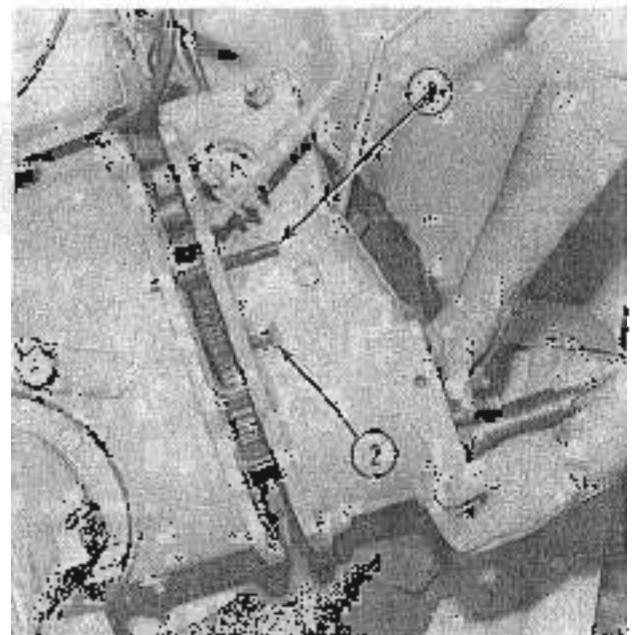

FIG. 3
- Remove (6) 10 mm. bolts and (2) 10 mm. shoulder screws holding the rear cover to the main case. You may install (2) 10 mm. studs 2-1/2" to 3" long to support the rear cover as it is removed. (1, Fig. 3)
Thread (2) of the 10 mm. bolts into the (2) tapped holes in the flange of the cover and back the cover away. (2, Fig. 3)